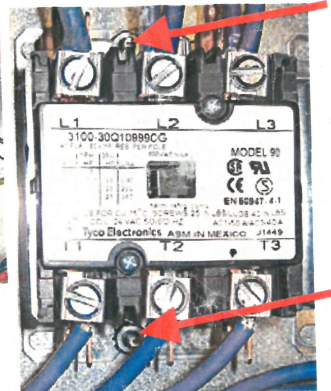

Figure 2
5. Loosen the nuts securing the old contactor (see Figure 2).